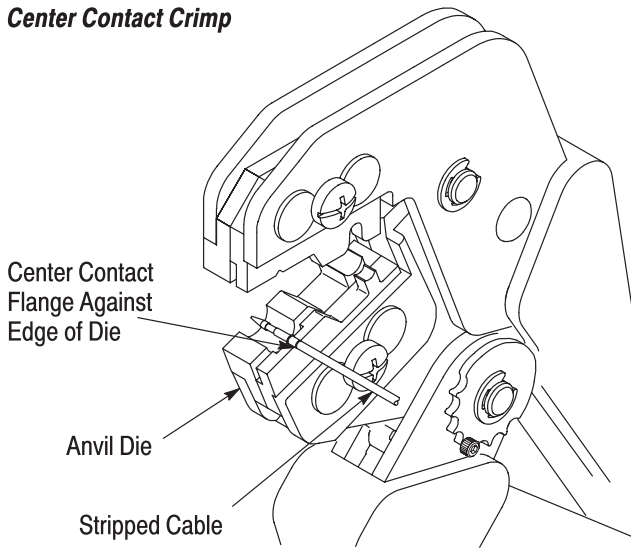

Figure 3
**4.1. Center Contact** (Figure 3)
1. Slide center contact onto stripped conductor. Insert center contact assembly into the partially closed center contact crimping chamber on the anvil die. Make sure the center contact flange is against the edge of the die as shown in Figure 3.